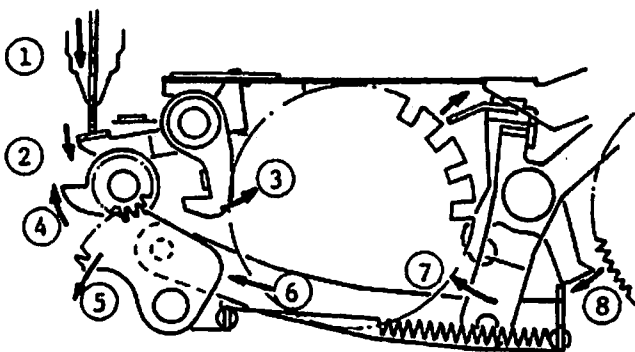

Fig. 120
- (1) With a release of shutter button Coupling pin (1) for film wind-stop releasing operates pushing Signal lever (2) and continuous operations from (3) to (7) encircled will follow.
- (2) Release lever comes off from Counter dividing device and Winding stop gear as shown in Fig. 120